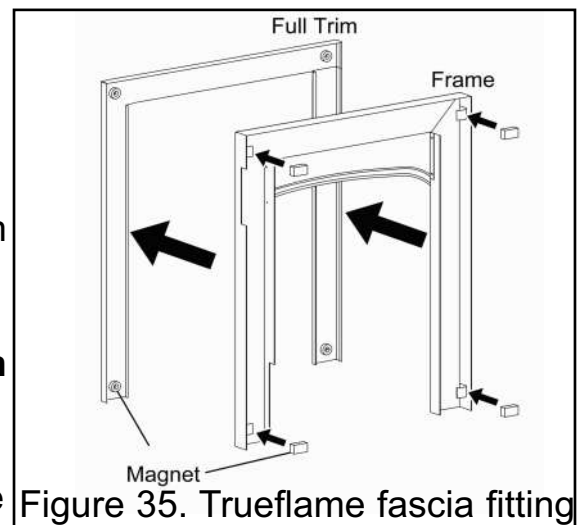

Figure 35. Trueflame fascia fitting
**2.** Place 4 magnets onto the brackets located on the frame (See figure 35).